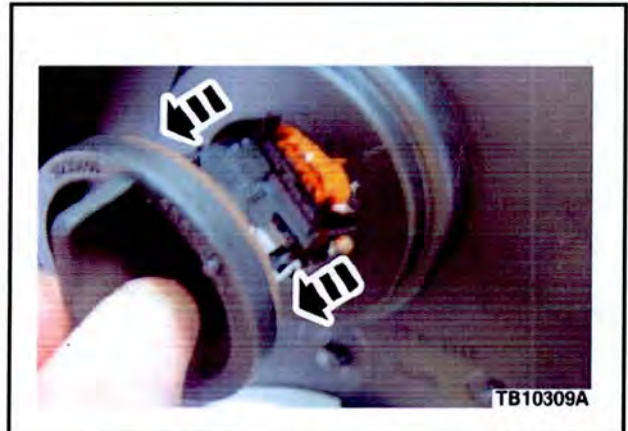

Figure 2 - Article 12-7-12
- b. Remove socket from the headlamp assembly. (Figure 2)